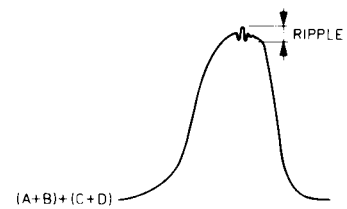

Fig. 8
- The sum signal  $(A+B) + (C+D)$  is displayed on the A-channel of the oscilloscope (see Fig. 8).